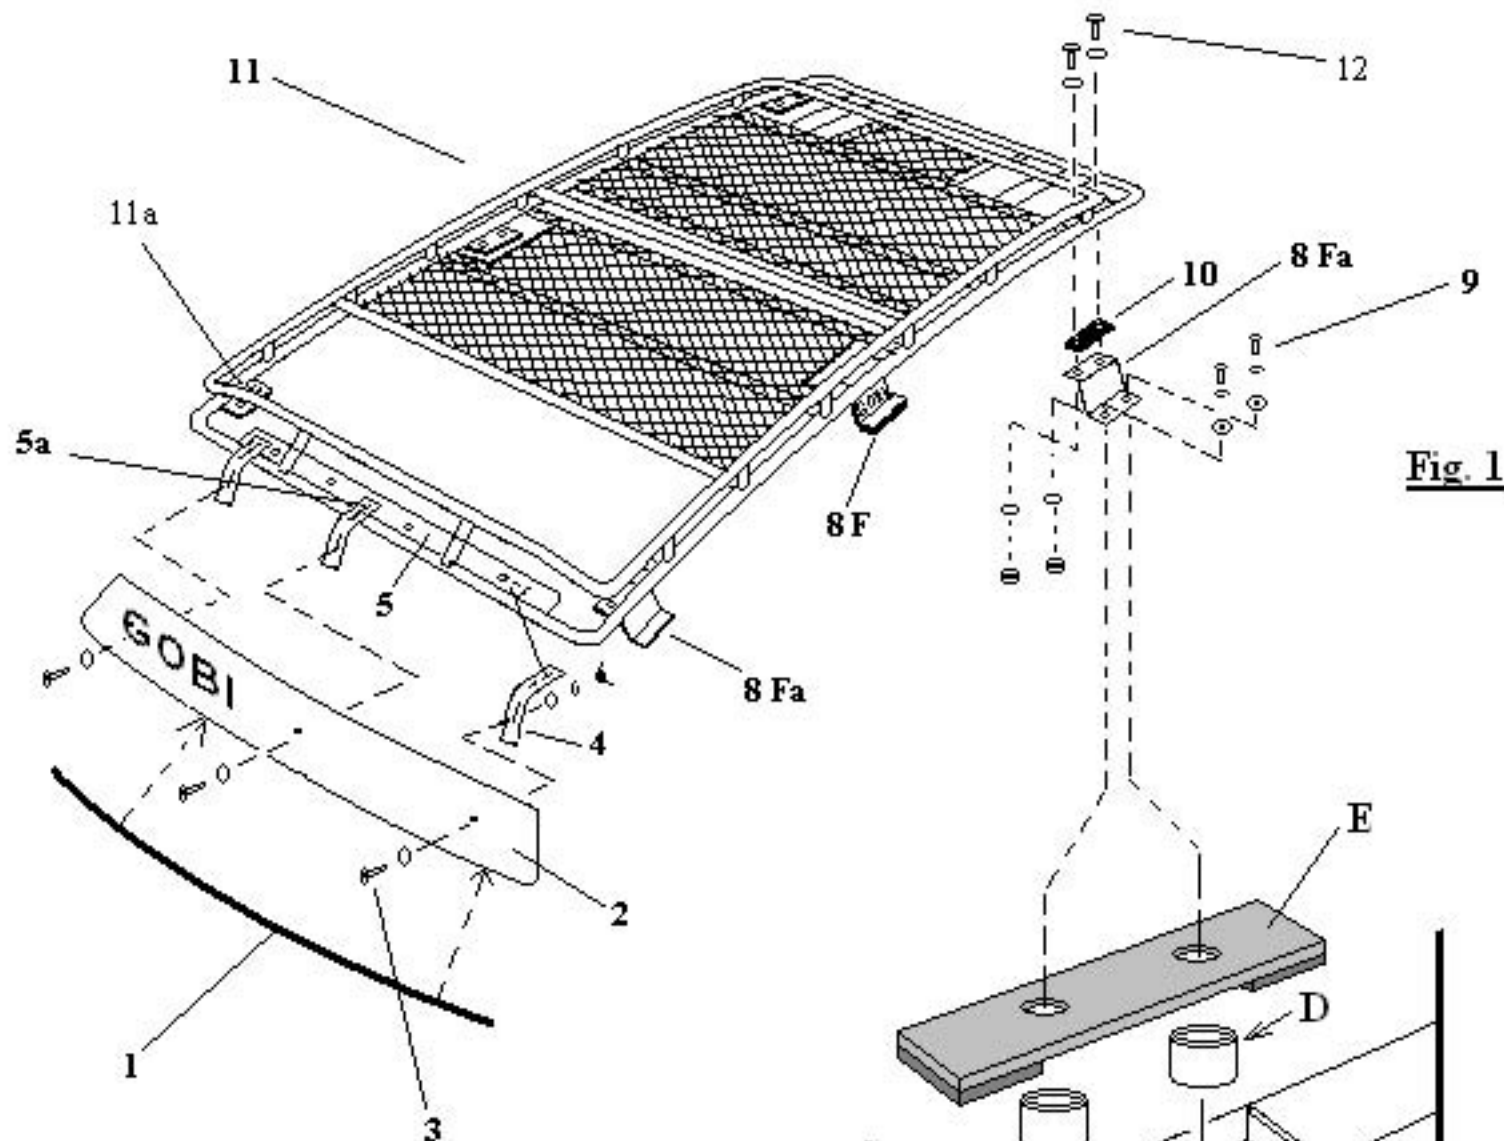
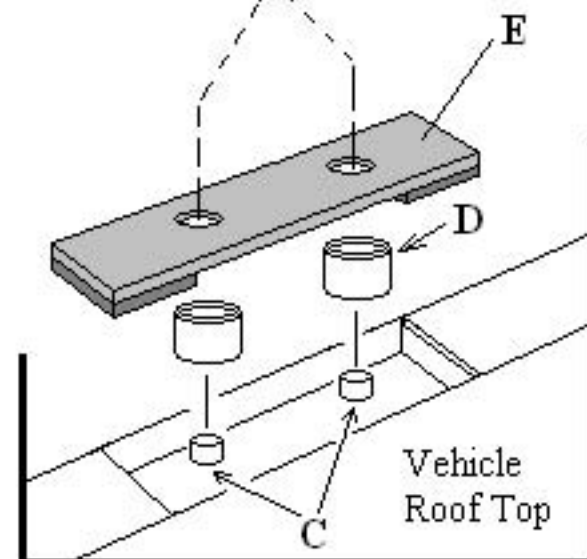
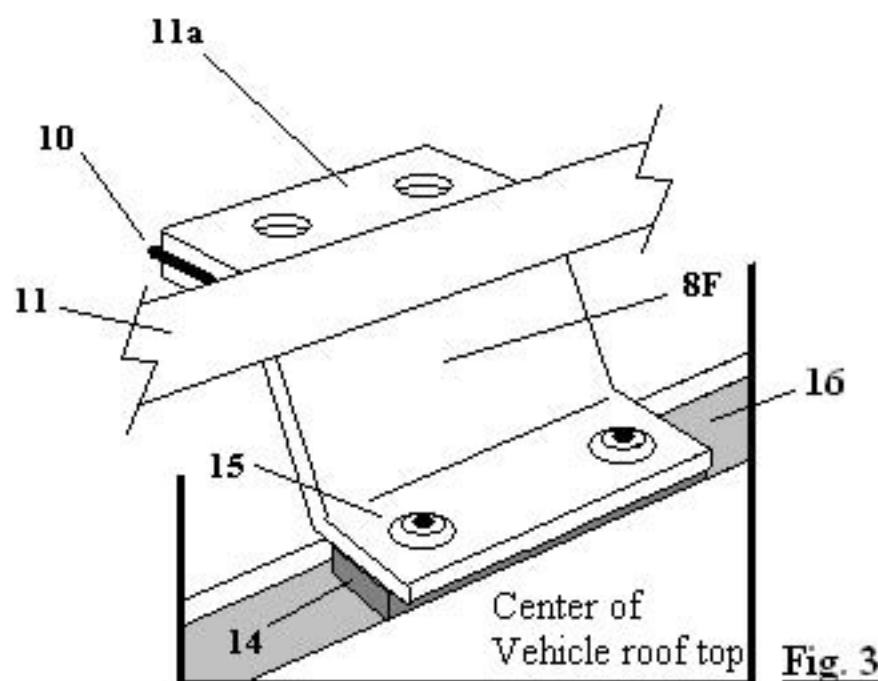

Fig. 1
Fig. 2
Fig. 3
- 3- After removing the OEM roof rack from your vehicle you may want to clean the roof top at this time. Refer to page 5 Fig. 2 and remove from (Plastic Bag 3) included in your kit 4 black cover plates "E" and 8 Nylon spacers "D". Place Nylon spacers "D" over each plastic insert "C" on your vehicle as shown on page 5 Fig. 2 then place over the top of the Nylon spacers black cover plate "E". Continue by placing support bracket "8 Fa" as shown on page 5 Fig. 1 and Fig. 2 over the black cover plate "E", then thread metric screws #9 found in (plastic Bag 3) as shown on page 5 Fig. 1 and Fig. 2 through Support bracket "8 Fa" then through cover plate "E" through Nylon spacers "D" and finally into vehicle roof top threaded inserts "C". Finger tighten only at this time. Continue the same procedure to all remaining 3 roof top anchoring points, 4 OEM roof rack anchoring points in total.
- 4- Install the Gobi roof rack #11 onto the 4 support brackets "8 Fa" as shown on page 6 Fig. 4 at this time. Continue by carefully placing rubber pad #10 included in your kit (Plastic Bag 4) as shown in Fig. 1 page 5 between the welded in flange #11a and support bracket "8 Fa". Secure the Gobi rack to the 4 "8 Fa" support brackets using the Stainless Steel 3/8" bolts, washers, lock washers and lock nuts found in (Plastic Bag 4) as shown in Fig. 1 page 5 #12. Finger tighten all bolts only at this time.
- 5- Locate center support brackets "8F" from your kit and loosen the two 5/16" button head screws #15 as shown on page 5 Fig. 3 using a 3/16" Allen wrench at this time. Install the center Gobi support bracket "8F" as shown on page 5 Fig. 3 by tilting the bracket under the Gobi roof rack and under the Center Gobi welded in flange 11a. Position the adjustable foot #14 onto the rubber strip #16 of the vehicle. Place rubber pad #10 between the welded in flange 11a of the roof rack and the support bracket "8F" as shown on page 5 Fig.3. Install bolts #12 washers, lock washers and lock nuts found in (Plastic Bag 4) of your kit and secure the center support bracket "8F" to the center welded in flange 11a as shown on page 5 Fig. 1. Finger tighten only at this time. Position the adjustable foot #14 to the center of the rubber strip of the vehicle.
- 6- Fully secure all 4 "8Fa" support brackets to the vehicle roof top as shown on page 5 Fig. 2 by fully tightening the #9 metric screws using the M5 metric Allen wrench located in (Plastic Bag 3) of your kit.
- 7- Refer to page 5 Fig. 1 and fully secure the Gobi roof rack #11 to the 4 support brackets "8Fa" by tightening all remaining #12 bolts, washers, lock washers and lock nuts. Continue by securing the 2 center support brackets "8F" in the same manner while making sure that center brackets "8F" are in line with the roof rack as shown on page 6 Fig. 5 "H". At this time the center support brackets "8F" should be pressing against the rubber strip #16 of your vehicle, adjust the support feet #14 as shown on page 5 Fig. 3 to be approximately in the center of the rubber strip #16 and tighten the two 5/16" button head Allen screws fully, using a 3/16" Allen wrench supplied in your kit.